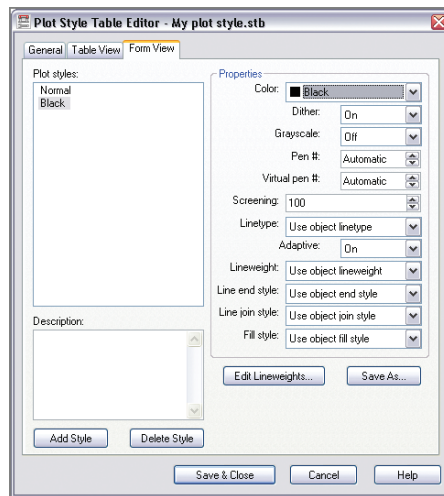

FIGURE 14.10 Creating a Black plot style
8. Open the Color drop-down, and select Black (see Figure 14.10).